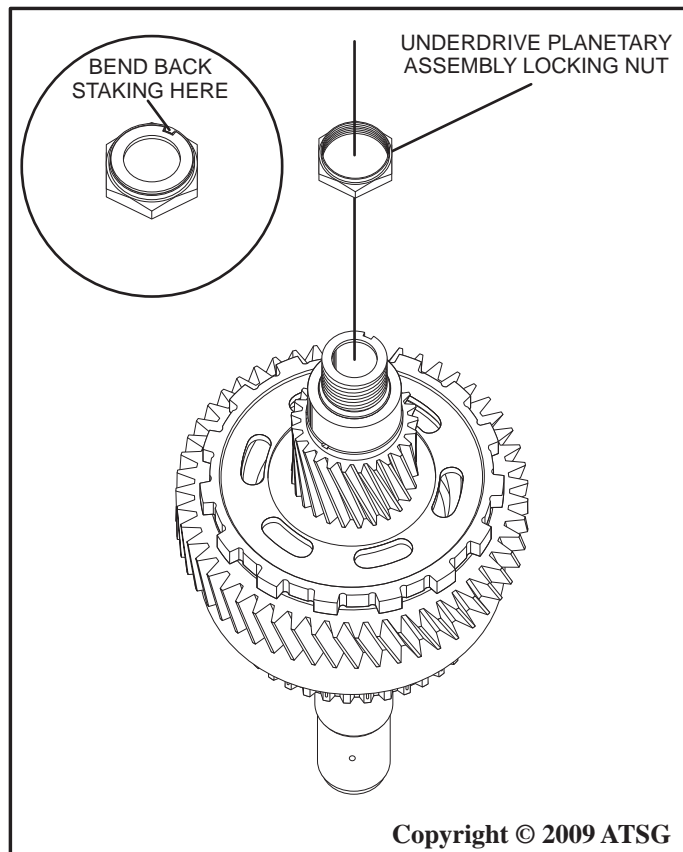

Figure 69
1. Using SST 09930-00010 (09931-00010, 09931-00020) or an appropriate punch, bend back the staking on the underdrive planetary assembly locking nut as shown in Figure 69.
2. Set the underdrive planetary assembly into a soft jawed vice or similar holding device to avoid damage to the differential drive pinion gear, then using SST 09564-16020 or a suitable socket, remove the locking nut from the planetary assembly as shown in Figure 69.